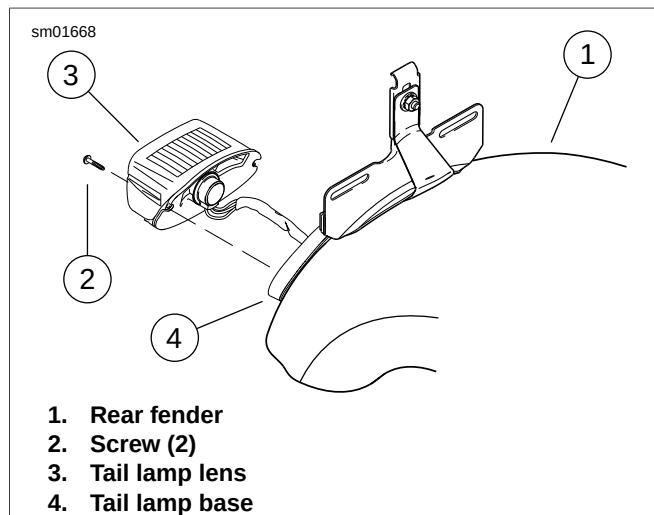
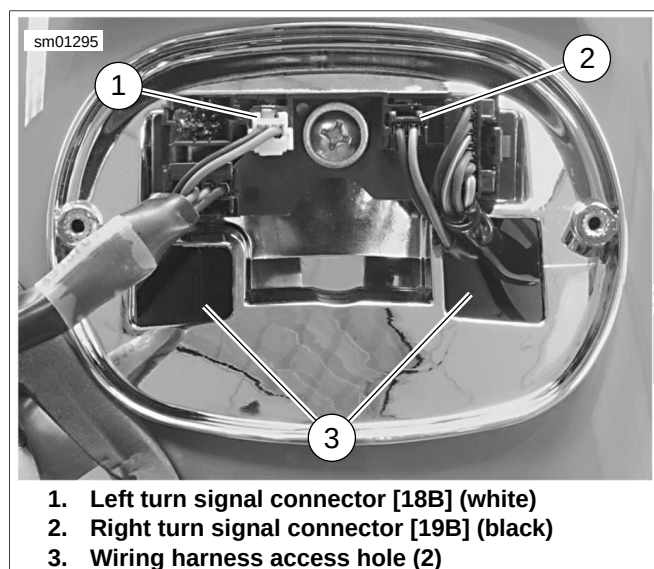

Figure 6-70. Removing/Installing Tail Lamp Lens, Typical: All Models Except XL 1200N
Figure 6-71. Turn Signal Connectors, Typical: All Models Except XL 1200N
1. See Figure 6-70. Remove two screws (2) and tail lamp lens (3) from tail lamp base (4).
2. See Figure 6-71. Remove left and right turn signal connectors (1, 2). Pull turn signal wiring harnesses through harness access holes in tail lamp base (3).
2. See Figure 6-71. Push left and right turn signal wiring harnesses through corresponding harness access holes (3) in tail lamp base.
3. Plug left turn signal connector [18] (1) and right connector [19] (2) into left and right sockets located on rear lighting circuit board in tail lamp base.
4. See Figure 6-70. Attach tail lamp lens (3) to tail lamp base (4) with two screws (2).